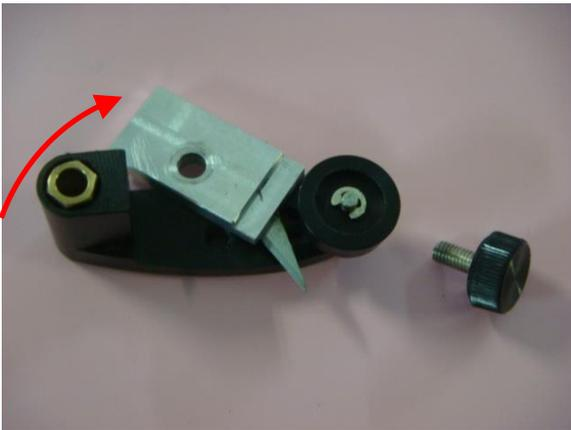

Figure 2-44
**Step 6** Remove the screw from the Cut-off Unit (Figure 2-42 and 2-43) and disassemble the Cut-off Blade Fixer by pulling it up vertically (Figure 2-44).